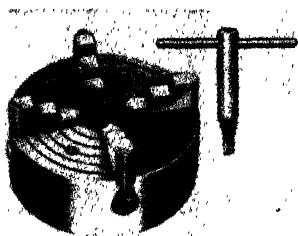

Fig. 15-2. A 4-jaw independent chuck and key. (South Bend Lathe Works)
*The Independent Chuck* (Fig. 15-2). A 4-jaw independent chuck has four reversible jaws, each of which may be independently adjusted. This means simply that each jaw may be moved separately; they do *not* move simultaneously. This type of chuck is used more than any other type because it will hold practically any shape of work and can be adjusted to any degree of accuracy desired.